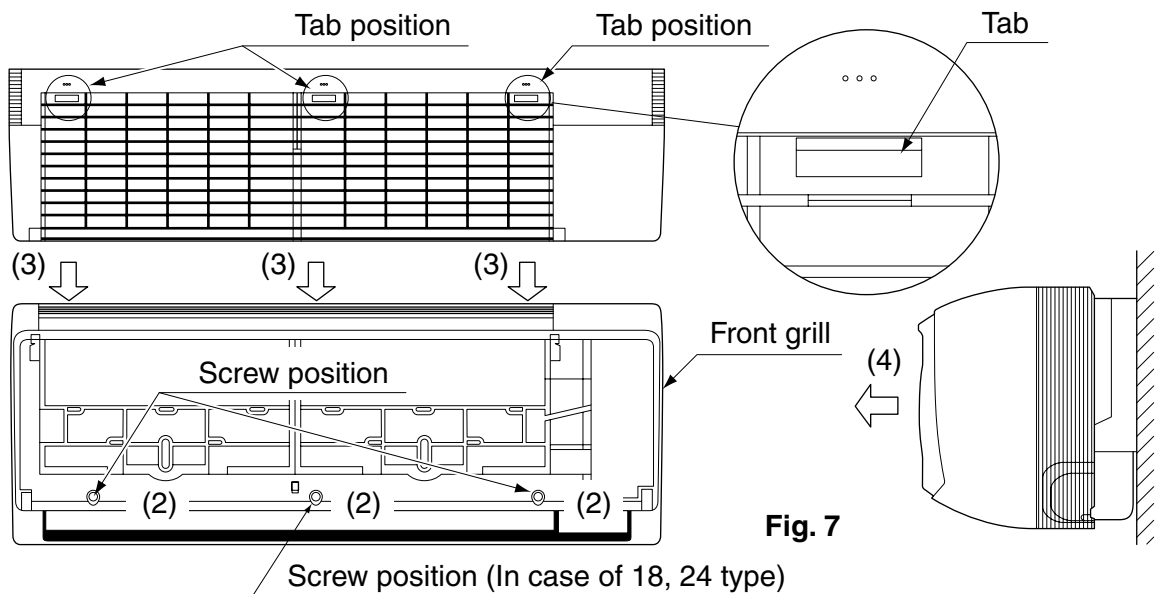
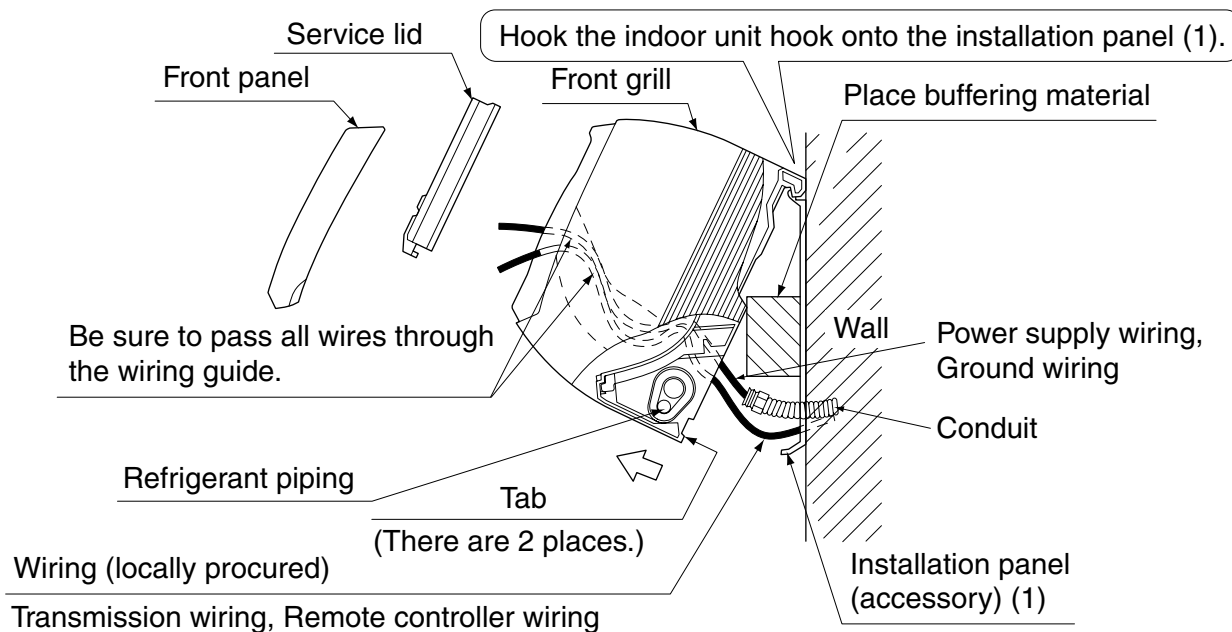

Fig. 7
Fig. 9
- Remove the front grill. (Refer to Fig. 7)
(6) Hook the indoor unit onto the installation panel. (Refer to Fig. 9)
(9) Push on both bottom edges of the indoor unit using both hands and hook the tab on the back of the indoor unit onto the installation panel (1). (Refer to Fig. 9)
- At this time remove the buffering material placed in step (6).